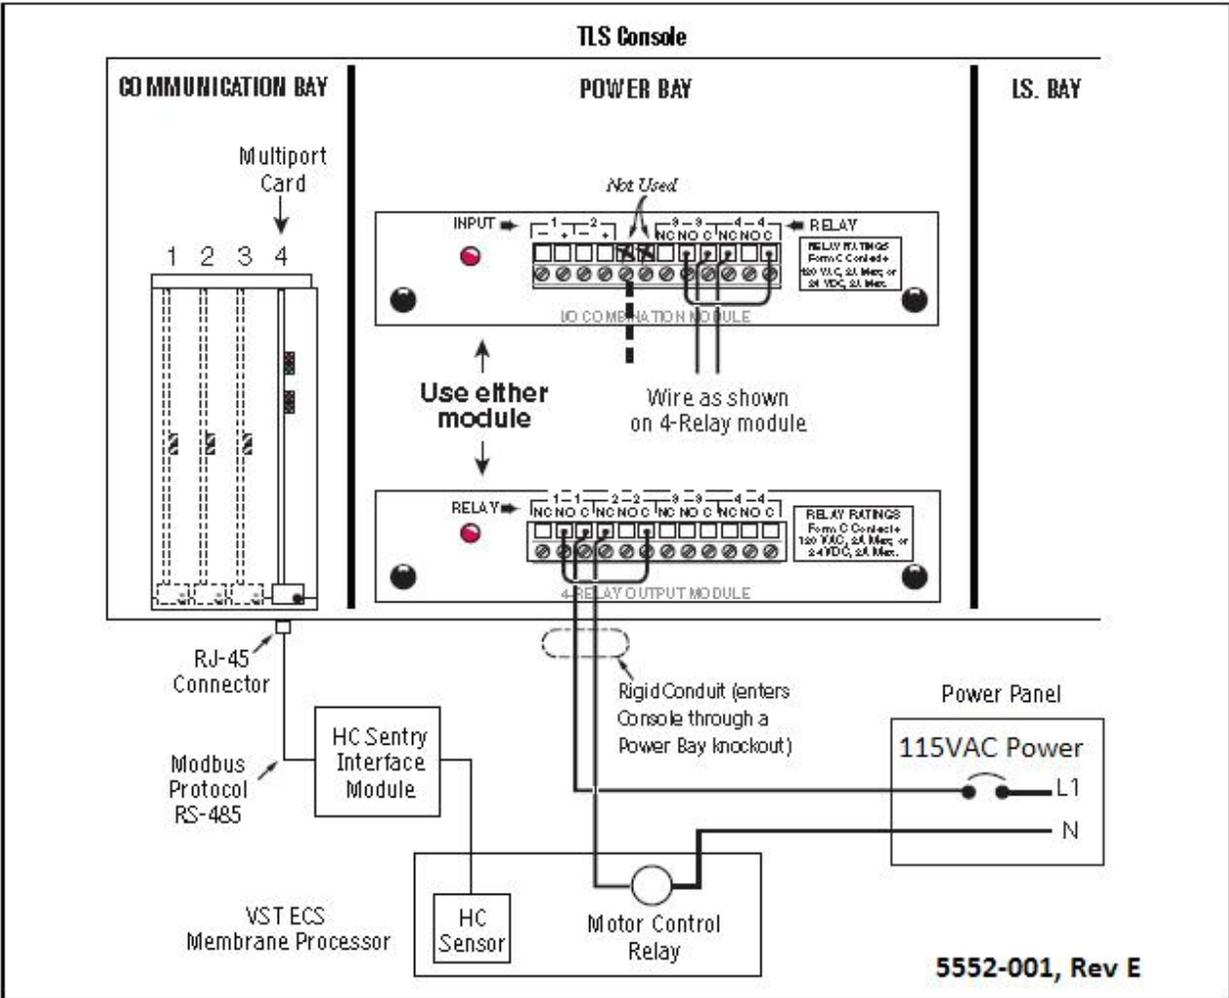

Figure 10: Wiring the Motor Starter Relay Coil
- See Figure 10 for connections to the TLS-350.